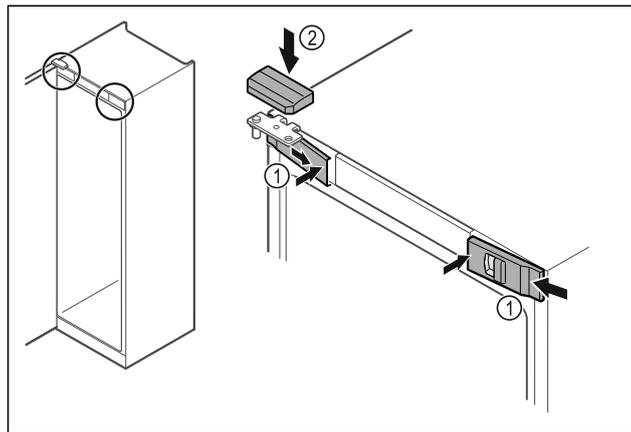

Fig. 43
- ▶ Hook in the front covers Fig. 43 (1) on the side and snap them into place on the inside.
- ▶ Snap on the top cover Fig. 43 (2) from above.